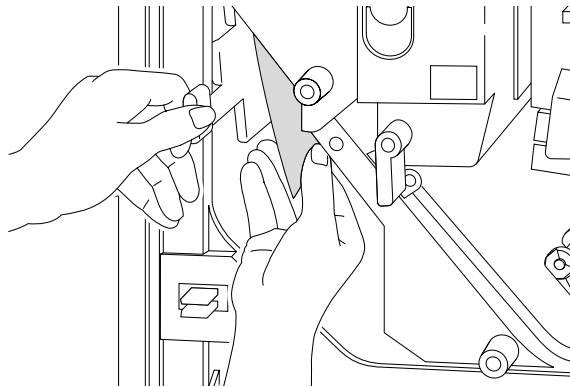

Figure 3-58 Removing paper jam from reversing area
4. Remove jammed paper, as shown in Figure 3-58.
1. Open the front door and remove any jammed paper in the reversing area, as shown in Figure 3-58.